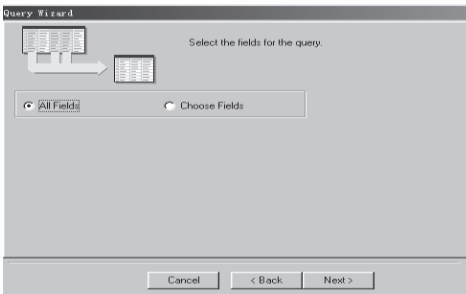

Fig. 8.6
2.3 Choose the fields, as in Fig. 8-6. All Fields means choosing all of the fields and Choose Fields means choosing the required fields. Then click “**Next**”.
2.4 Select the Calculating Fields, as in Fig. 8.6: No Calculations means no calculating fields and Add Calculations means adding the calculating fields. Then click “Next”.